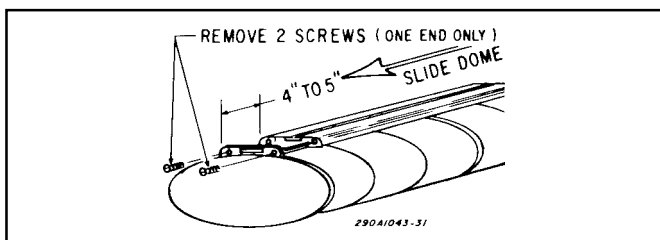

Figure 1.
A. Remove the two screws, located at the identification plate, at one end of the dome assembly. Slide the dome assembly out about 4 to 5 inches along the slots in the extrusion as shown in figure 1.
1. Remove the two screws, located at the identification plate, at one end of the dome assembly. Slide the dome assembly out about 4 or 5 inches, along the slots in the extrusion as shown in figure 1.